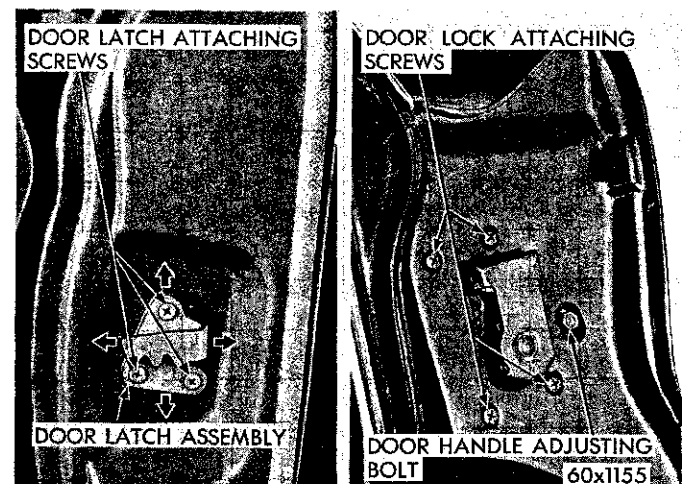

Fig. 5—Door Lock Rotor and Striker Assembly
(1) Make a thorough inspection of the door before attempting adjustment. A properly fitted door has evenly spaced gaps on all sides.
(2) Test the engagement of the door latch with the striker plate.
(3) The door should raise slightly as the latch passes over the plate.
(4) The striker plate, as shown in Figure 5 can be moved "in" or "out" and controls the tightness of the door against the body.
(1) After the door has been centered in its opening and all the hinge bolts have been tightened 18 to 20 foot pounds torque, test the door for ease of opening and closing.
(2) To adjust, move the striker plate "in" or "out", "up" or "down" as necessary (Fig. 5) until easy operation is obtained, and the door fits snugly against the weatherstrip.
(3) Be sure the top surface of the striker plate is parallel with the bottom of the door latch nylon wedge in the rotor housing.
(4) The striker plate is properly positioned when the door has a very slight lift as it is closed.
(5) If proper adjustment cannot be obtained, the use of shims between the latch plate and pillar